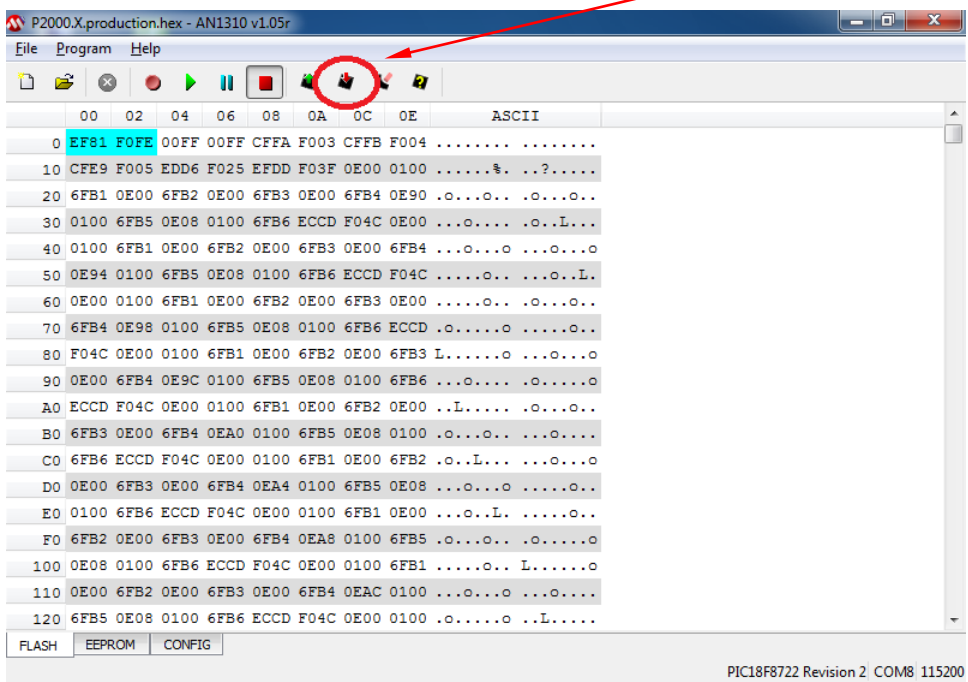

Figure 3.19
8. The bootloader screen will show new hexadecimal values. Click the **Write Device** button (Figure 3.19).